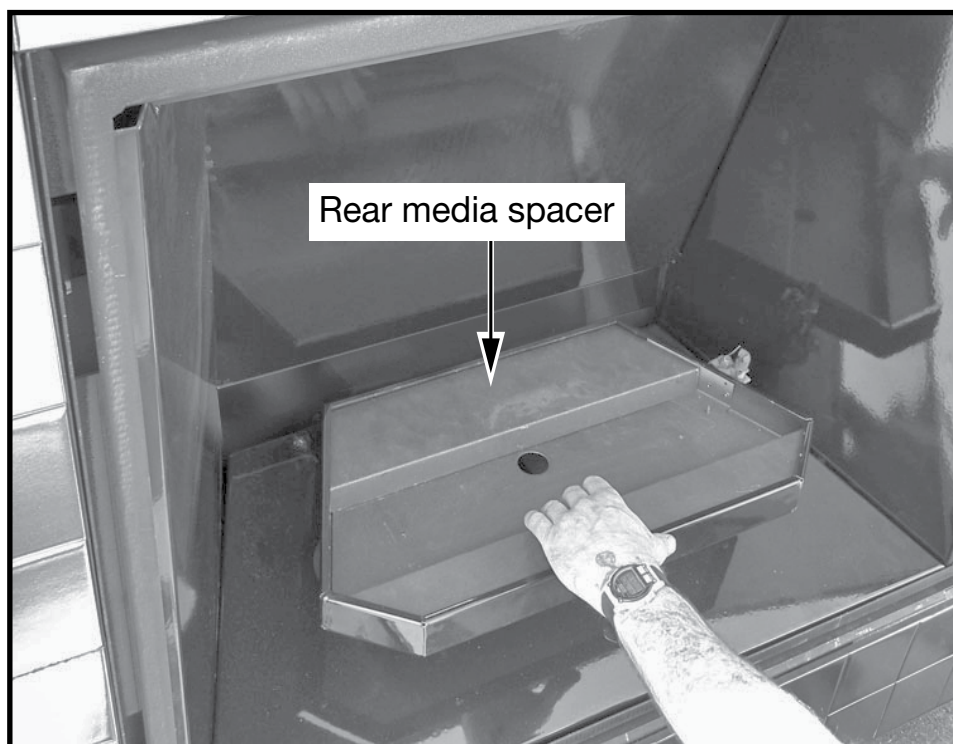
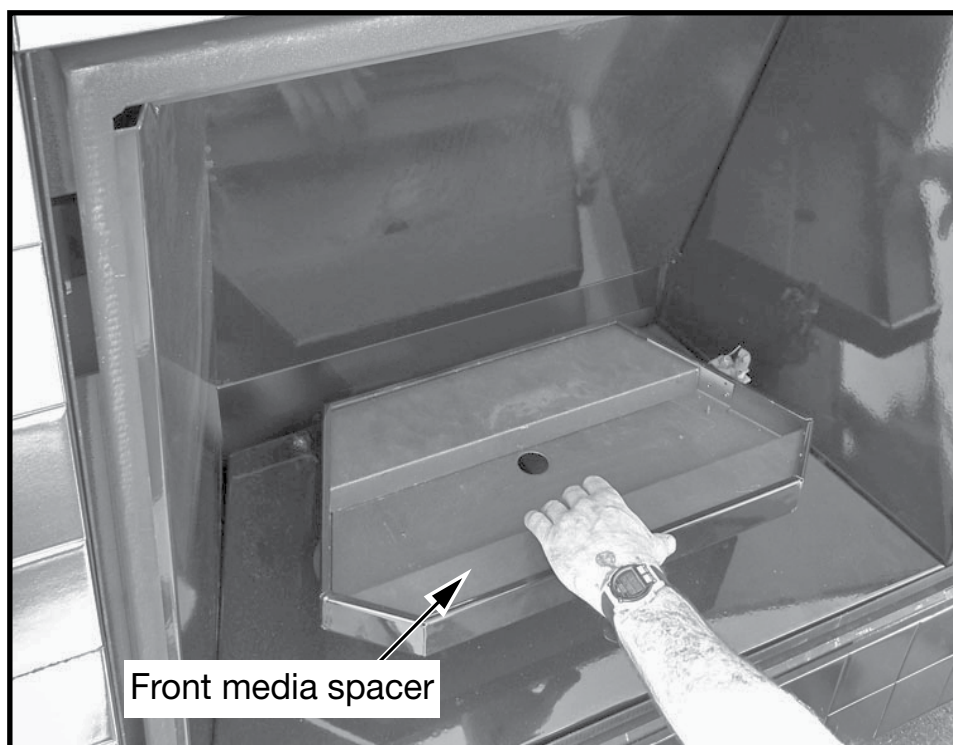

Figure 11: Rear media spacer.
Figure 12: Front media spacer.
11. Install front & rear media spacers (Figure 11 and Figure 12).